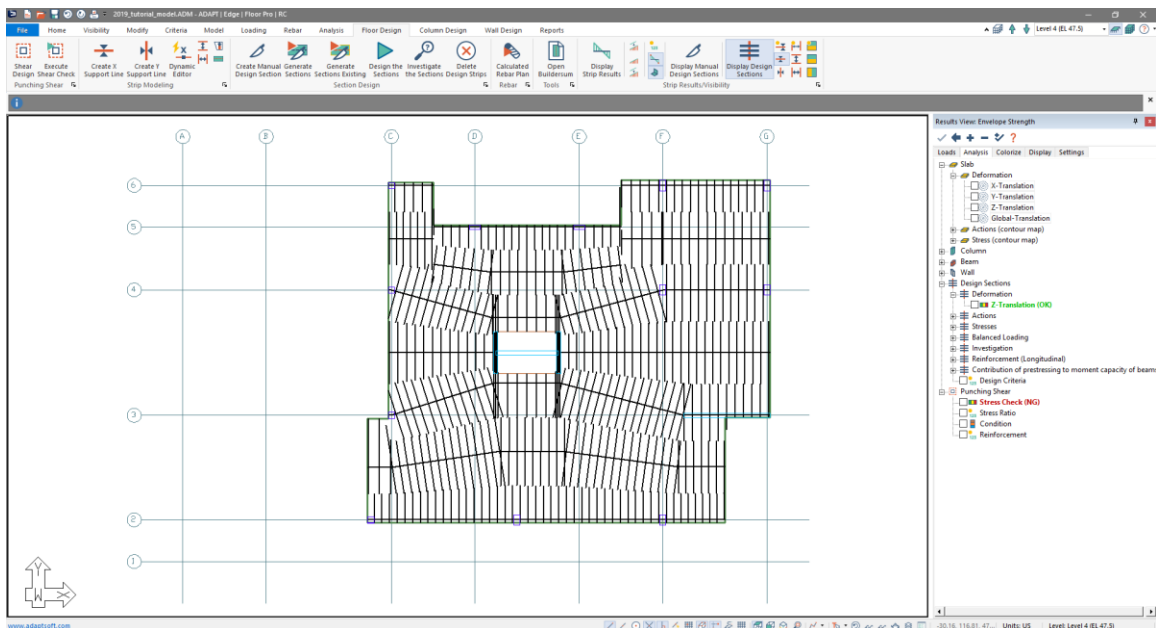

Figure 10-25
- The user's screen should now be similar to **FIGURE 10-25**